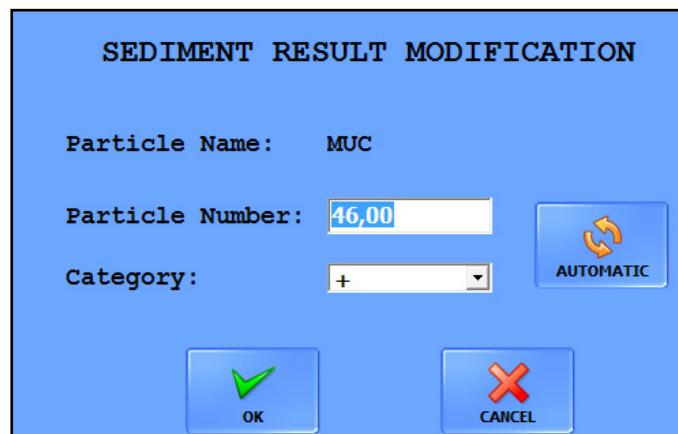

Figure 12: A dialog box to modify a microscopy urinalysis result
- 2 Enter the desired value in the dialog box that pops up (see Figure 12). The system will automatically apply the change you made in one of the text boxes to both text boxes.